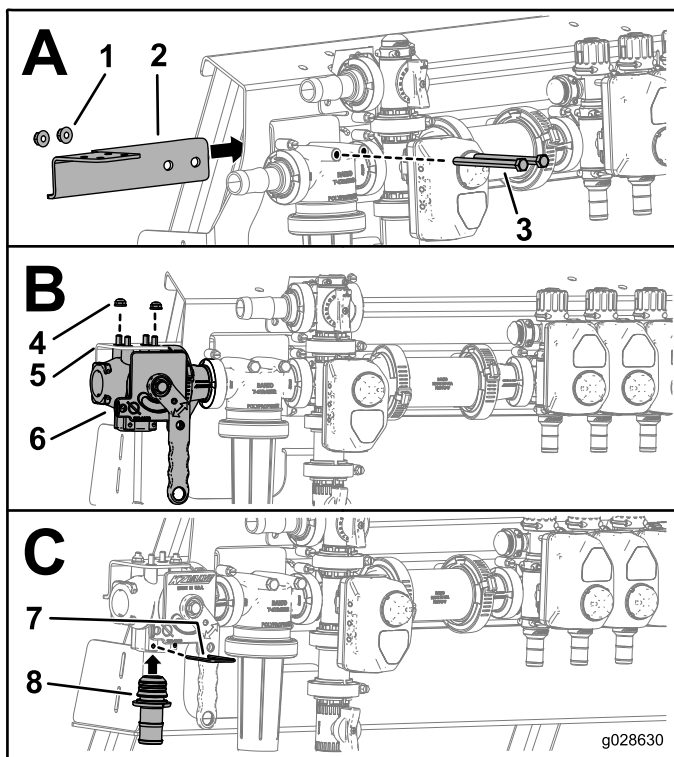

Figure 4
3. Secure the eductor valve bracket to the boom valve assembly using the bolts and nuts that secure the pressure filter to the boom valve bracket; refer to Box A of Figure 4.
4. Install the eductor valve as shown in Box B of Figure 4.
5. Install the 1-inch fitting into the eductor valve and secure it with a new retainer pin; refer to box C of Figure 4.